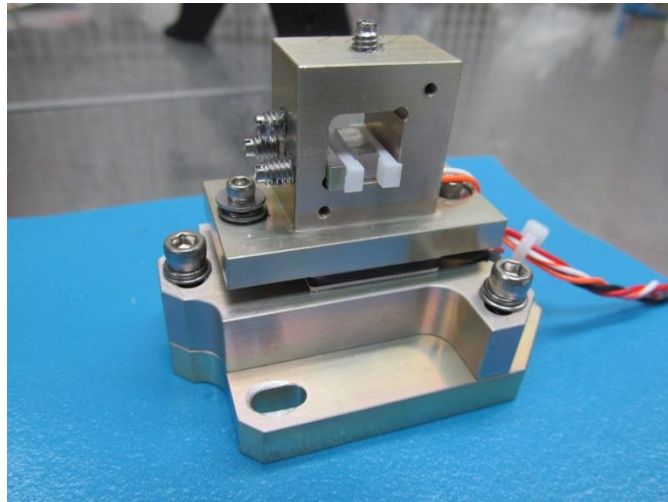
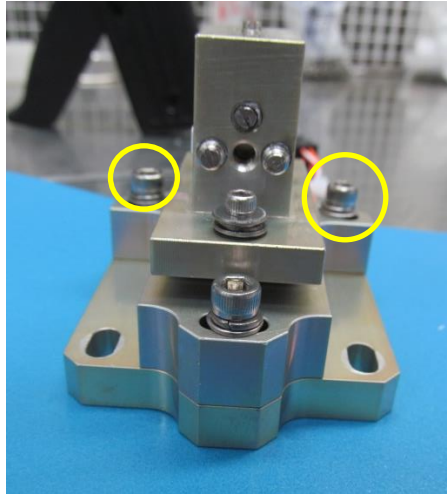

Figure 2-25: Indium Foil Placement
Figure 2-26: Ball Plungers for Mount
7. Press the other 0.002" piece of indium onto the top of the crystal, making sure it is centered on the crystal and none of the indium is hanging over the edge. Using a pair of tweezers, carefully move the insulators, crystal and load spreader and place them into the SHG mount. Make sure that the Indium foil remains in place on the crystal as shown in **Figure 2-25**.
8. Thread in the 2 ball plungers (circled in yellow, **Figure 2-26**) until they press the pieces into the wall of the mount. Back them off an eighth-turn as shown in **Figure 2-25**.